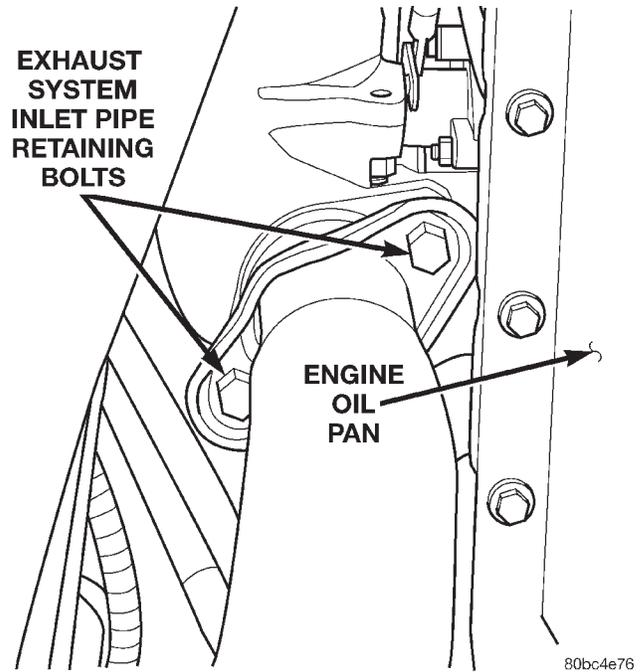

Fig. 20 Exhaust System Inlet Pipe Retaining Bolts
(31) Remove the exhaust system inlet pipe retaining bolts from the turbocharger down pipe (Fig. 20). Support the front portion of the exhaust system with mechanics wire. Be certain to position the pipe out of the way of the torque converter bolt access hole. Located in the transmission bellhousing.
(32) Disconnect the engine speed sensor. Located on the upper right side of the transmission bellhousing.